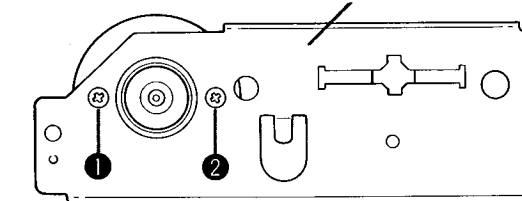

Fig. 14
4. Remove the screws 1 and 2 in Fig. 14 and then remove the motor. MAIN BELT